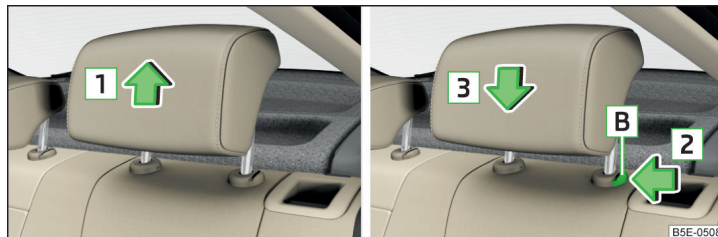

Fig. 67 Set the height of the back headrest
- Grasp the restraint and move **upwards** in the direction of **1** » Fig. 67.